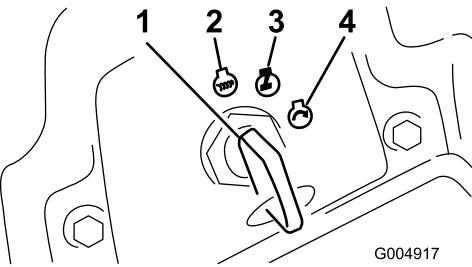

Figure 17
6. Turn the ignition key clockwise to the Run position (Figure 17).
- Turn the ignition key to the Off position (Figure 17). Wait for all moving parts to stop before leaving the operating position.